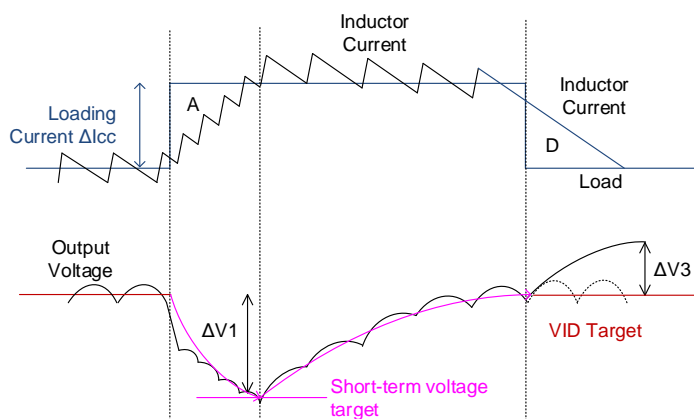

Figure 20. Zero Load Line with AC-Droop Control
Figure 20 shows the condition with AC-droop control. While loading occurs, the controller temporarily changes the VID target to the short-term voltage target. The short-term voltage target is related to the transient loading current ΔI_{CC} and can be represented as follows:
Where the V_{CS} is the current sensing signal from DCR sensing or SPS current sensing. For DCR sensing, $V_{CS} = I_{CC_MAX} \times DCR$. The current gain (AI) can be set by the Pin Setting of AI Gain. Users can select AI gain according to Table 8 to set the desired short-term voltage target. The short-term voltage target reverts to the VID target slowly after approximately 100 μ s. The short-term voltage target can help the inductor current not to exceed the loading current too much, and then the ring back can be suppressed. As shown in Figure 20, the overshoot amplitude is reduced to only $\Delta V3$.